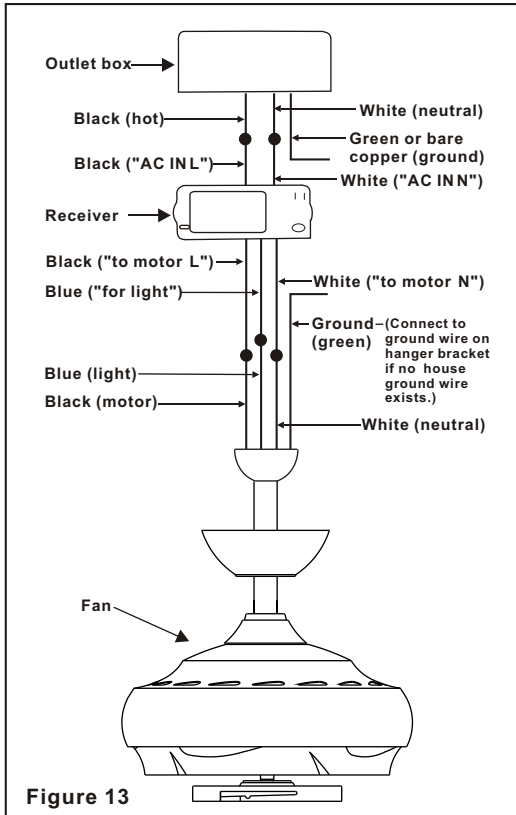

Figure 13
Step 2. (Fig. 13 & 14) Motor to receiver Electrical Connections; Connect the Black wire from the fan to the Black wire marked "To Motor L" from the receiver. Connect the White wire from the fan to the White wire marked "To Motor N" from the receiver. Connect the Blue wire from the fan to the Blue wire marked "For Light" from the receiver.
Step 3. (Fig. 13 & 14) Receiver to house supply wires Electrical Connections; Connect the Black (Hot) wire from the outlet box to the Black wire marked "AC in L" from the receiver. Connect the White (neutral) wire from the outlet box to the white wire marked "AC in N" from the receiver. Secure all wire connections with the plastic wire nuts provided.
Step 4. (Fig. 13 & 14) If your outlet box has a ground wire (green or bare copper) connect the fan ground wire from hanger ball and hanger bracket to it; otherwise connect the fan ground wire from the hanger ball and hanger bracket together.